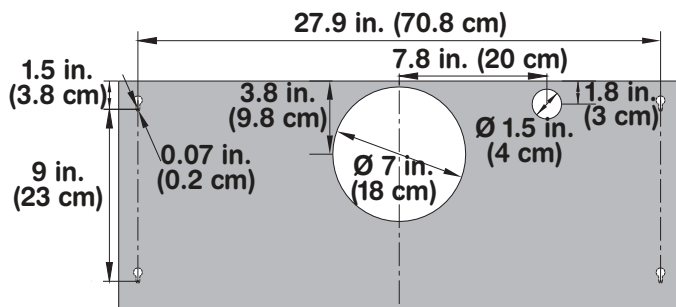

Figure 6-1
- Drill 4 holes on the hanging cupboard, according to the mounting position dimensions. See figure 6-1 or 6-2.